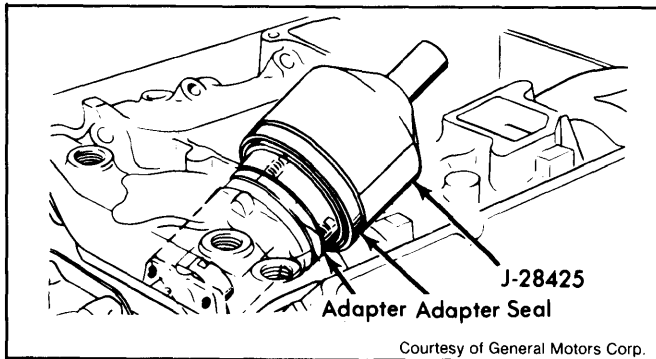

Fig. 8: Installation of New Adapter Seal
3) Push seal onto pump adapter using installer. See Fig. 8. Remove seal installer. Observe seal for proper positioning. Torque adapter bolts to 25 ft. lbs.